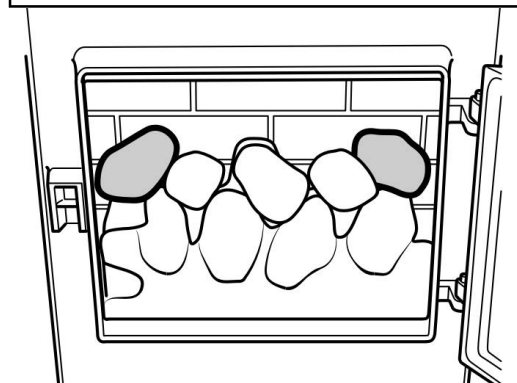

Figure 10.
8. Locate the remaining two ceramic coals identified with a number '1' as in figure 10.